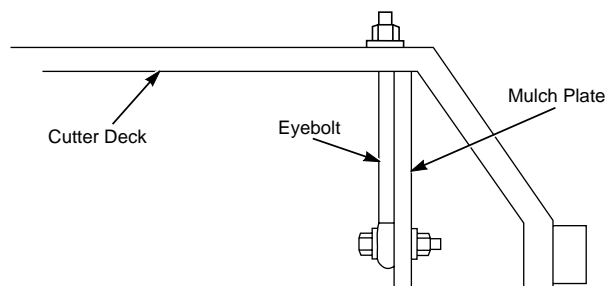

Figure 1. Mulching Plate Mounting
2. Secure the 5/16-18 eyebolt to the mulching plate using the 5/16-18 X 1-1/4" bolt, two flat washers and the elastic stop nut supplied in the hardware package. (See Figure 1).
3. Place the front end of the mulching plate inside the cutter deck discharge opening and insert the end of the eyebolt into the open hole in the top of the cutter deck (See Figure 1). Loosely secure using one flat washer and one 5/16-18 elastic stop nut. Do not tighten the elastic stop nut at this time.